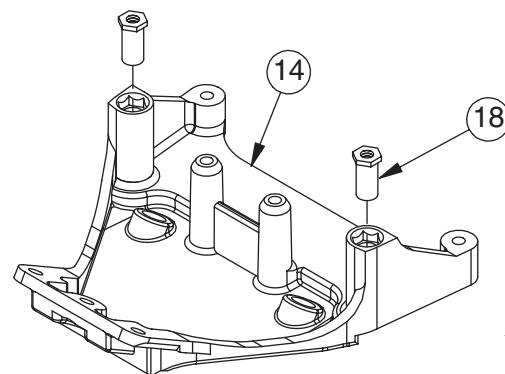

Figure A-4
- 1. Install a Threaded Insert (18) into the top of each of the two forward holes in the front Kickplate (14). The inserts should be installed with the hex-side up as shown in Figure A-4. Press the Threaded Inserts all the way into the holes in the Kickplate, lining up the hex on the inserts with the hex in the holes.